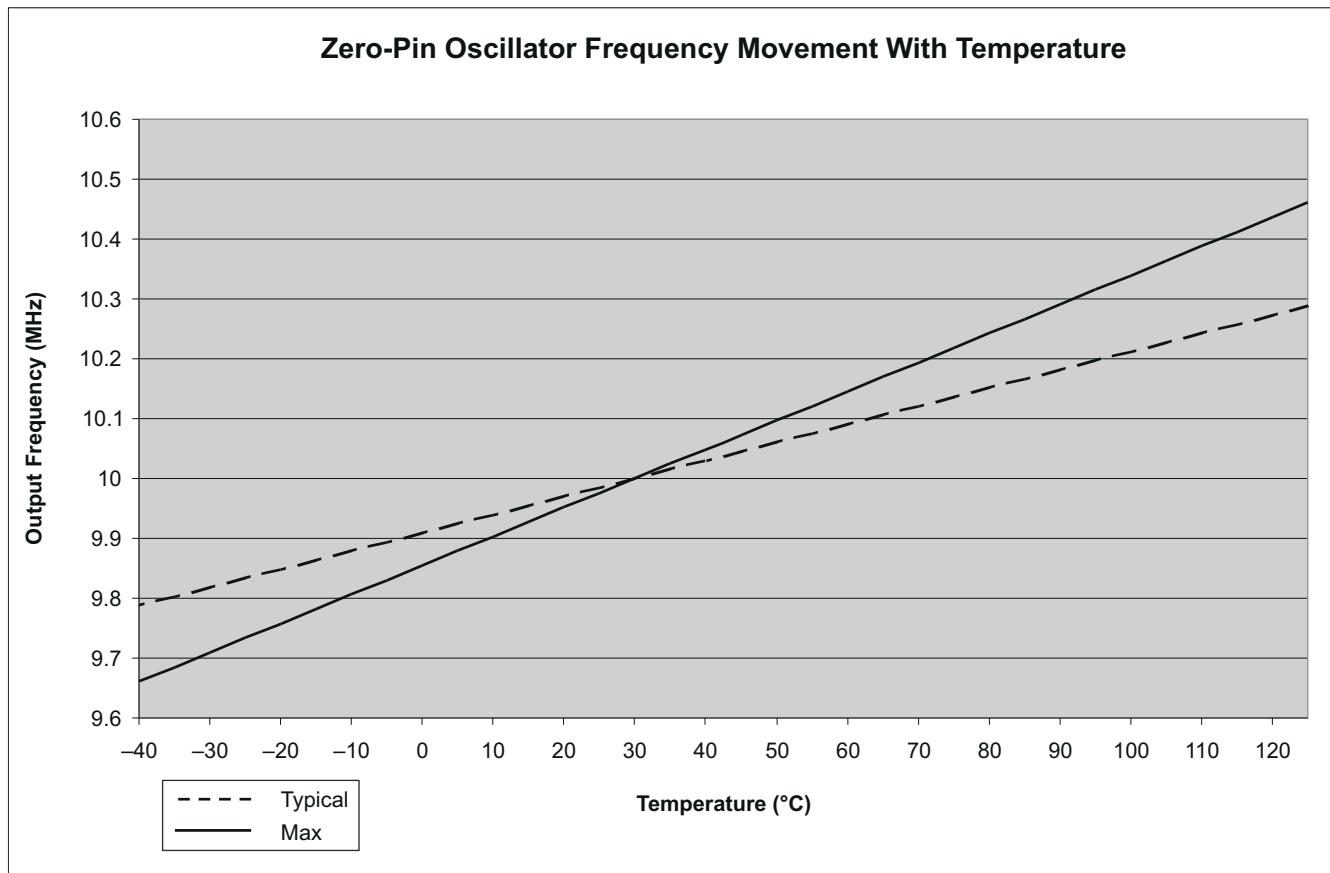

Figure 7-9. Zero-Pin Oscillator Frequency Movement With Temperature
- (1) To achieve better oscillator accuracy (10 MHz ± 1% or better) than shown, see the Oscillator Compensation Guide. See Figure 7-9 for TYP and MAX values.
- (2) Frequency range is ensured only when VREG is enabled, $\overline{VREGENZ} = V_{SS}$.
- (3) Output frequency of the internal oscillators follows the direction of both the temperature gradient and voltage (V_{DD}) gradient. For example: